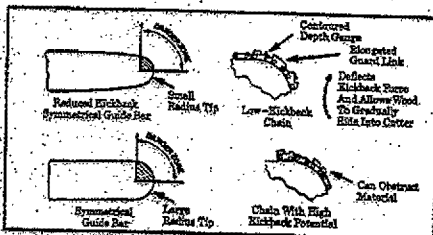

Figure 5
- **Reduced - Kickback Guide Bar**, designed with a small radius tip which reduces the size of the kickback danger zone on the bar tip. Figure 5. A Reduced - Kickback Guide Bar is one which has been demonstrated to significantly reduce the number and seriousness of kickbacks when tested in accordance with the safety requirements for gasoline powered chain saws as set by ANSI B175.1 - 1985 (American National Standards Institute, Inc., Standard B175.1 - 1985).
- **Low-Kickback Chain**, designed with a contoured depth gauge and guard link which deflect kickback force and allow wood to gradually ride into the cutter. Figure 5. Low-Kickback Chain is chain which has met kickback performance requirements of ANSI B175.1 (Safety Requirements for Gasoline-Powered Chain Saws) when tested on a representative sample of chain saws below 3.8 cubic inch displacement specified in ANSI B175.1.